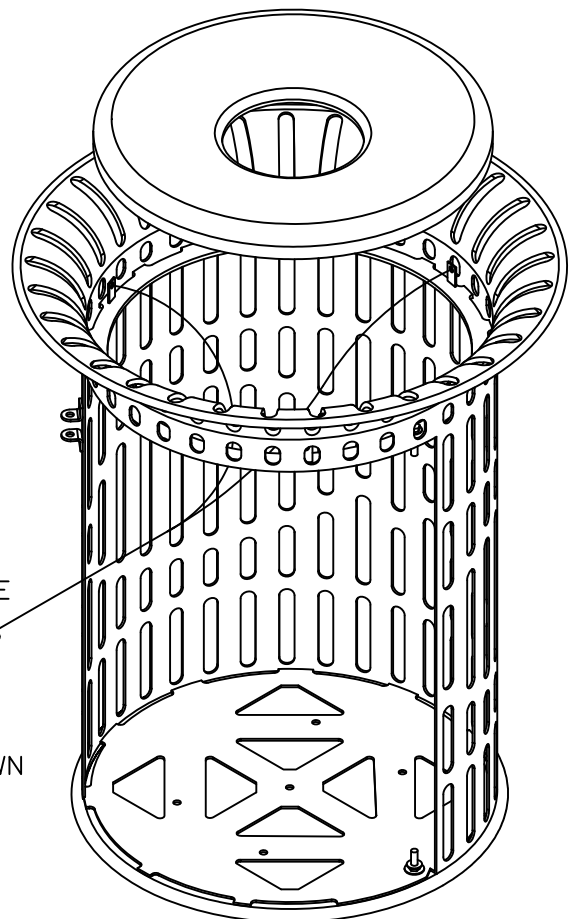

FIG. 3
STEP 2: Open side door. Hold top in place, and using the holes in the receptacle vertical straps as a template, secure top to receptacle with three (W) self-drilling, self-tapping screws. See FIG. 3.